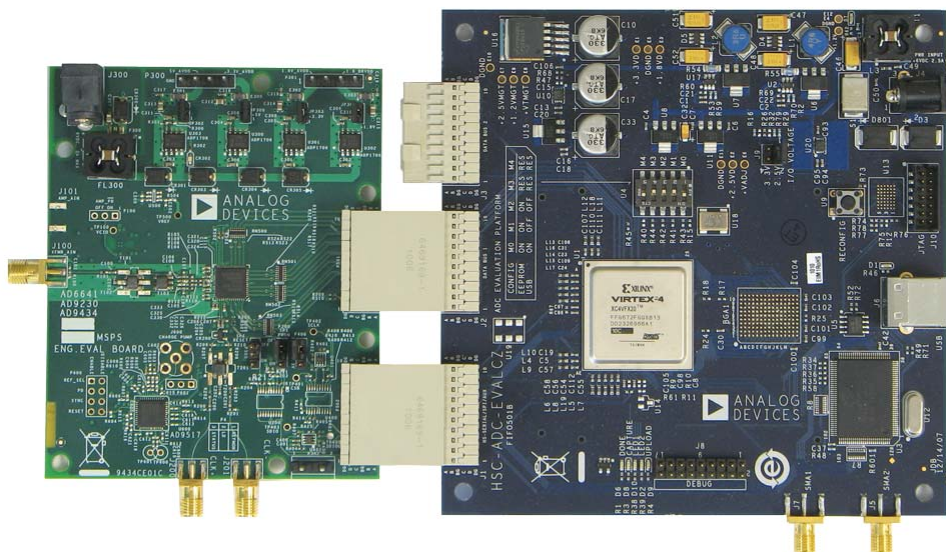

Figure 1. AD9434 and AD9484 Family Evaluation Board and HSC-ADC-EVALCZ Data Capture Board
1. Connect the AD9434 evaluation board to the HSC-ADC-EVALCZ boards as shown in Figure 1.